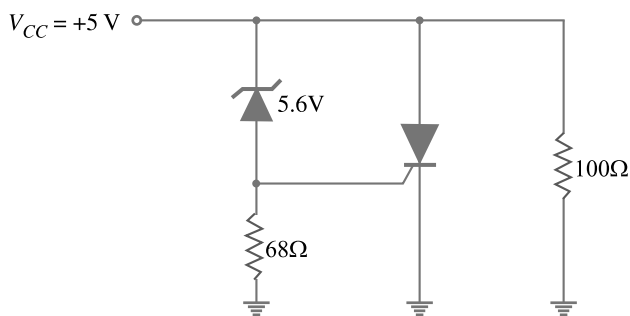

Fig. 18.29
**Example 18.17.** In Fig. 18.29, the SCR has a trigger voltage of 0.7 V. Calculate the supply voltage that turns on the crowbar. Ignore zener diode resistance.